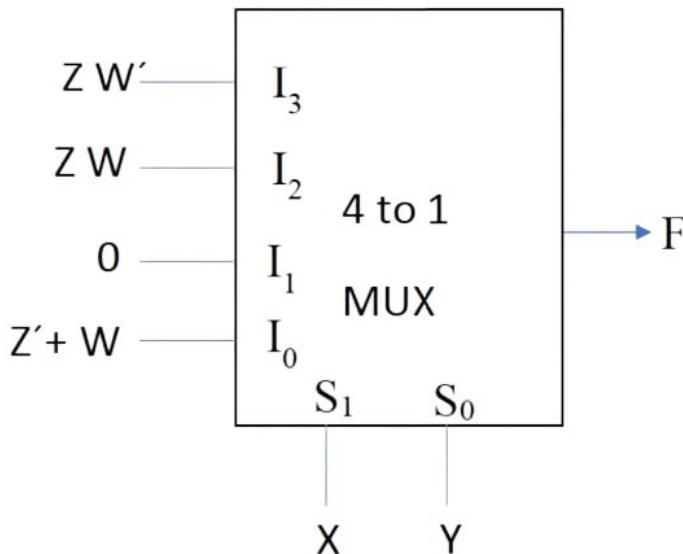

Fig. 4.20: Multiplexer
39. A 4×1 multiplexer with two selector lines is used to realize a Boolean function F having four Boolean variables X, Y, Z and W as shown below in Fig. 4.20. S_0 and S_1 denote the least significant bit (LSB) and most significant bit (MSB) of the selector lines of the multiplexer respectively. I_0, I_1, I_2, I_3 are the input lines of the multiplexer. (GATE-IN2021,35)